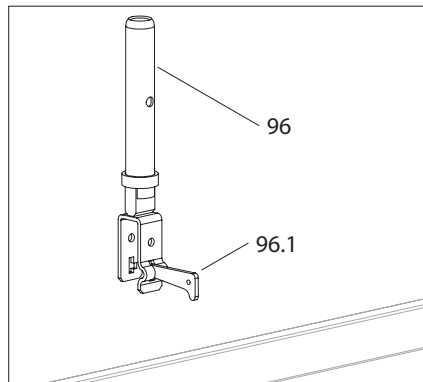

Fig. A11.09b
1. Pull the wedge (96.1) out of the clamping part and put the clamping part over the horizontal ledger. (Fig. A11.09b)